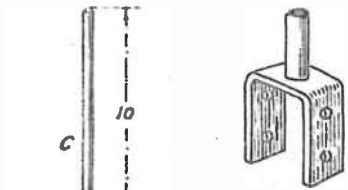
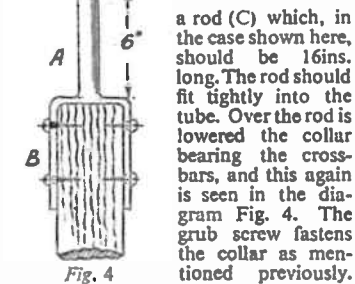

Fig. 5
Fig. 4
The making of the vertical rod is now undertaken and this is shown in Fig. 4. A piece of piping some 6ins. or more in length as (A) is let into and riveted to an inverted U shaped stirrup (B), which must be drilled to take the screws for fastening it to the top of the post (see also Fig. 5). Passing into the tube (A) is